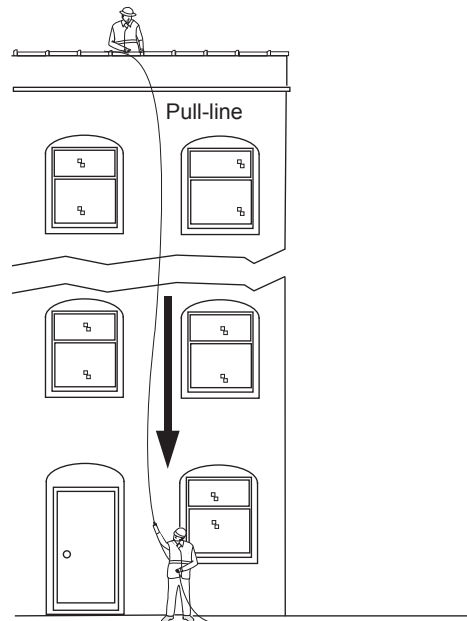

Figure 2
5.1 Lower the pull-line from the roof to street level (Figure 2).